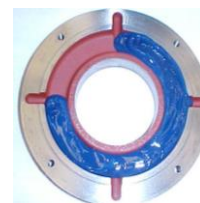

Figure 7.10: External bearing cap
- Fill up to $\frac{3}{4}$ of the inner and outer bearing cap deposits with the recommended grease (Figure 7.10) and lubricate the rolling bearing with enough grease before assembling it;